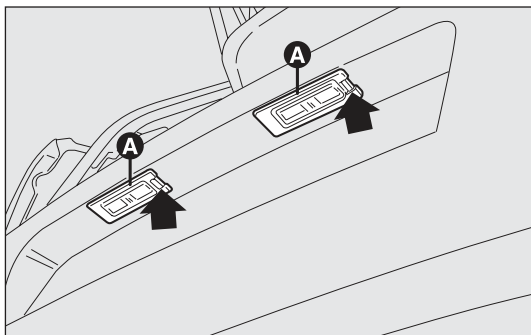

fig. 173
- ☐ manipulate the point shown by the arrow and remove the lens unit A-fig. 173;